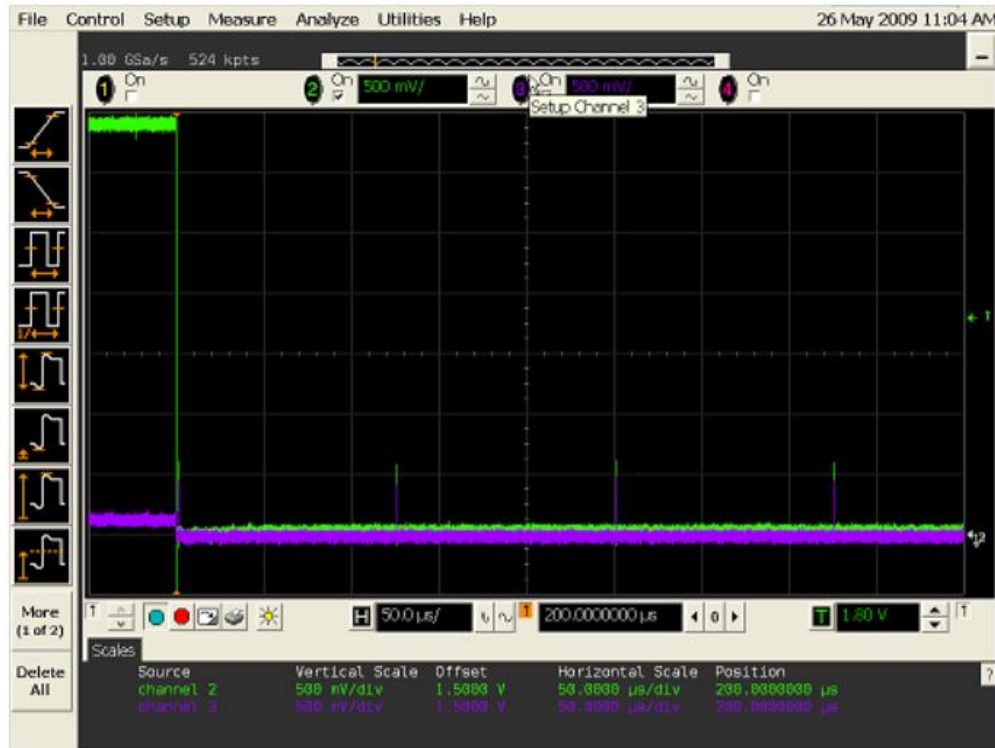

Figure 78. EL_41 host resume waveform
6. After 15 seconds of suspend state the host shall issue a Resume K state on the bus, then continue sending SOFs. The captured transition should be as shown in Figure 78.